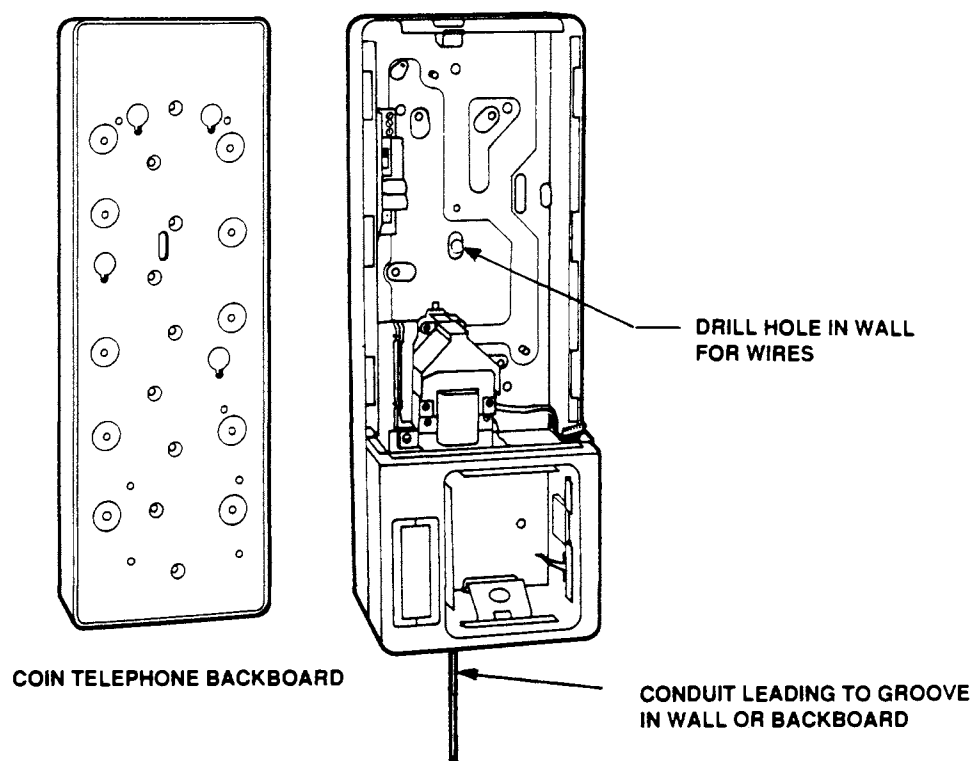

Figure 7 Mounting Options
The phone must be flush against the vertical surface when mounted. Therefore you must either: drill a hole through the surface for the telephone line cord, power cable, and ground wire; put a "groove" in the surface for the telephone line cord, power cable, and ground wire; or purchase a coin telephone backboard. Refer to Figure 7 for illustrations of these mounting options.
- If you are using the "groove" method, determine where groove should go and groove surface. (Note: A groove may not be necessary if you are using a 178A Backboard, and do not plan to drill a hole through the wall. Refer to Figure 7.)
- Place electrical power cable, ground wire, and 2-conductor telephone line cord through wire entrance hole in phone (outside to inside). Refer to Figure 7.